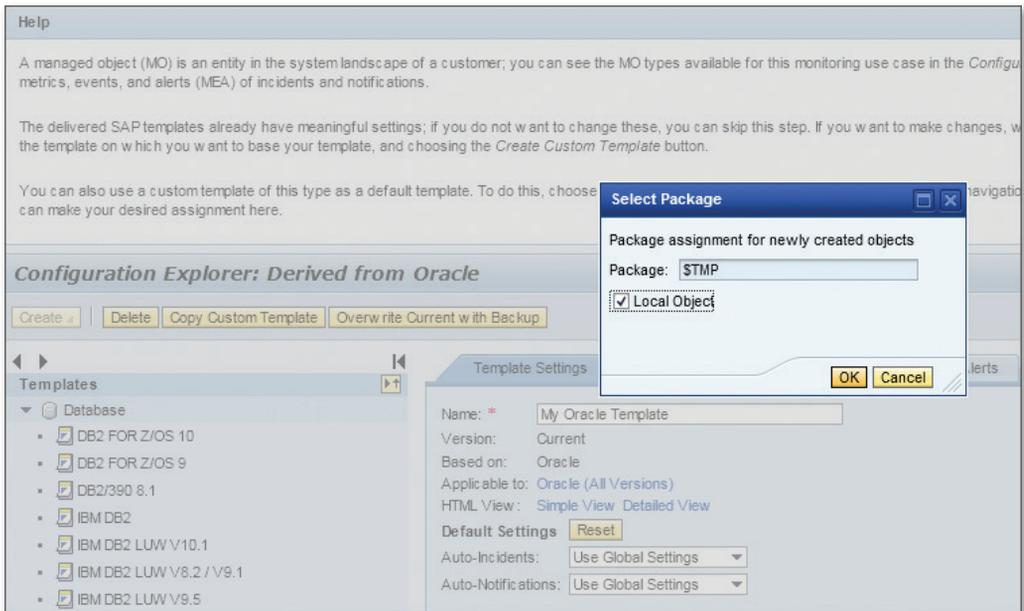

Figure 5.38 Assigning a Package
3. Assign a development package to the template so that it can be stored there. This ensures that customized templates created in an SAP Solution Manager development system can later be transported to the production system. Alternatively, you can save the template in a local object. Choose SAVE to save the template. A dialog box in which you assign the template to a package (see Figure 5.38) opens. In our example, we have activated the LOCAL OBJECT checkbox. Choose OK to create the template for the product you require.